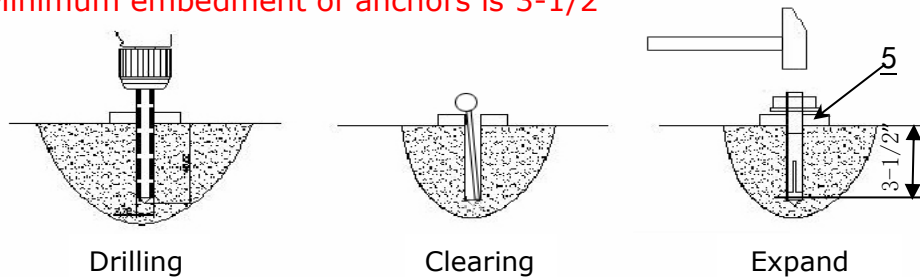

Fig. 14
2. Using the prescribed rotary hammer drill, and drill all the anchor holes and install the anchor bolts. do not tighten the anchor bolts first (See Fig. 14).